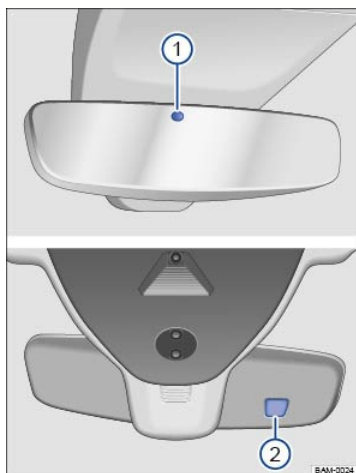

Fig. 92 On the windshield: Self-dimming rearview mirror.
When the ignition is switched on, the sensors on the mirror measure the amount of light shining into the vehicle from the rear → Fig. 92① and from the front → Fig. 92② of the vehicle.